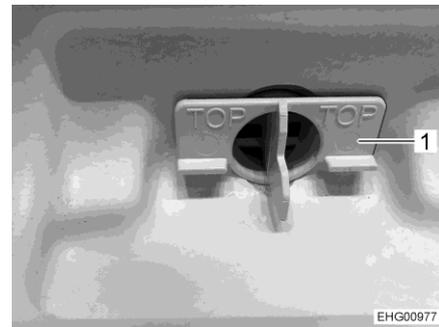

Fig. 136 Plastic insert in the shower tray
- Remove the plastic insert (Fig. 136,1) and clean the drain.